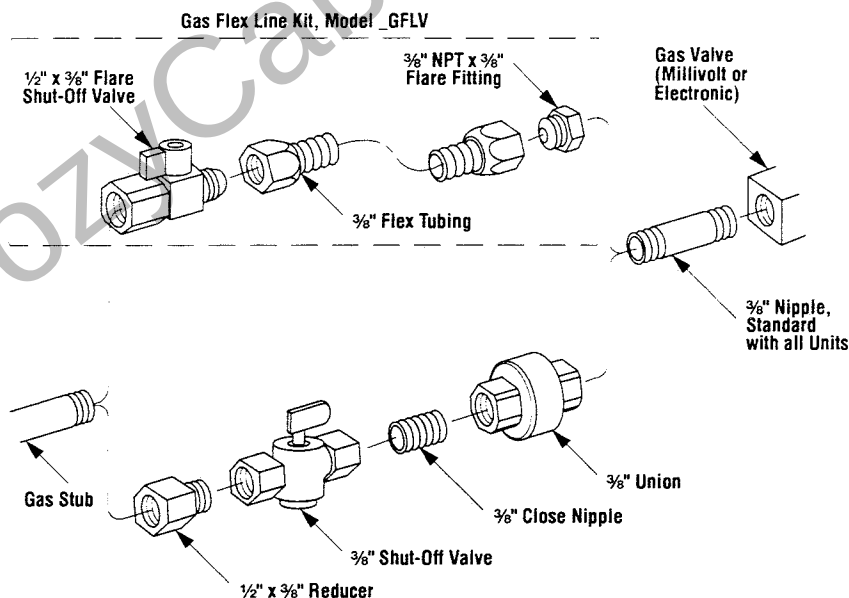

Figure 47
Step 9. Connecting Gas Line – Make gas line connections. All codes require a shut-off valve mounted in the supply line. Figure 47 illustrates two methods for connecting the gas supply. The flex-line method is acceptable in the U.S., however, Canadian requirements vary depending on locality. Installation must be in compliance with local codes.